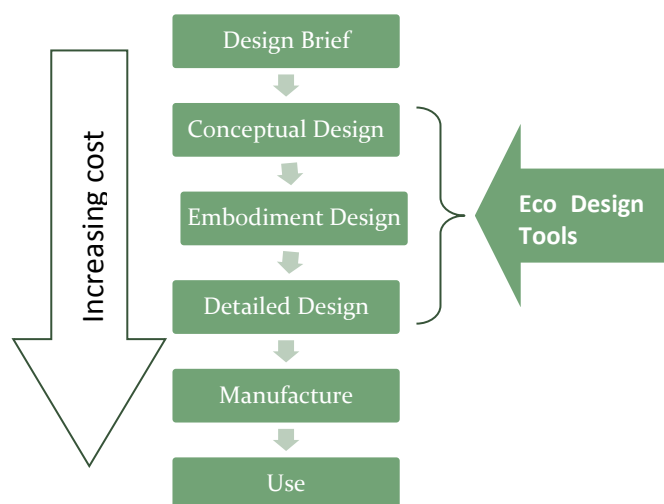

Figure 5: Granta's Eco Design tools meet the need for assessing environmental impact during design
Granta's core expertise in materials and process selection and materials information management, together with our understanding of the challenges of eco design (24), has allowed us to develop a range of practical eco design software tools complete with supporting materials and environmental data. They are designed to be used during the early stages of design—where changing the material and process choices costs least but matters most (Figure 5).